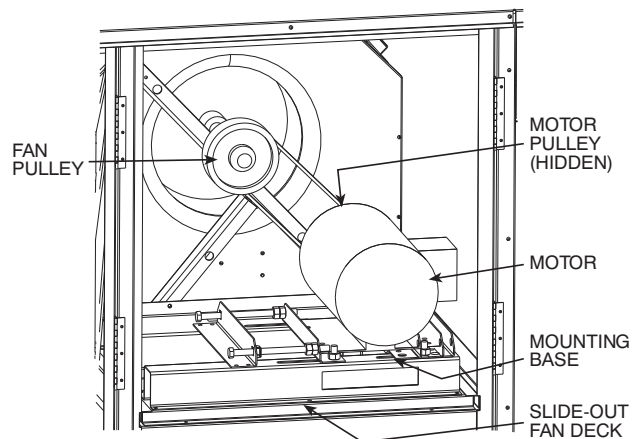

Fig. 26 - Evaporator-Fan Motor Adjustment
3. Remove three no. 10 screws at front of slide-out fan deck. Save screws. (See Fig. 26.)
Evaporator Fan Performance Adjustment (Fig. 26 and 27)
4. Move motor mounting plate to adjust to proper belt tension. (See Table 7.) Motor adjuster bolts may be used to tighten belts. (See Fig. 26.)